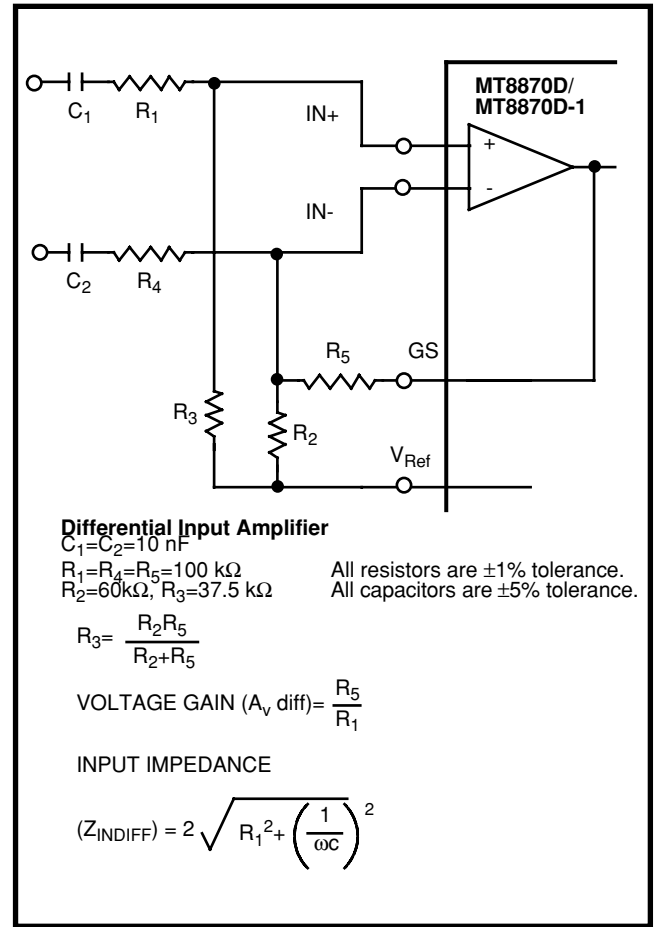

Figure 6 - Differential Input Configuration
| 4 | 4 | V _{Ref} | Reference Voltage (Output). Nominally V _{DD} /2 is used to bias inputs at mid-rail (see Fig. 6 and Fig. 10). |
The input arrangement of the MT8870D/MT8870D-1 provides a differential-input operational amplifier as well as a bias source (V_{Ref}) which is used to bias the inputs at mid-rail. Provision is made for connection of a feedback resistor to the op-amp output (GS) for adjustment of gain. In a single-ended configuration, the input pins are connected as shown in Figure 10 with the op-amp connected for unity gain and V_{Ref} biasing the input at $1/2V_{DD}$. Figure 6 shows the differential configuration, which permits the adjustment of gain with the feedback resistor R_5 .